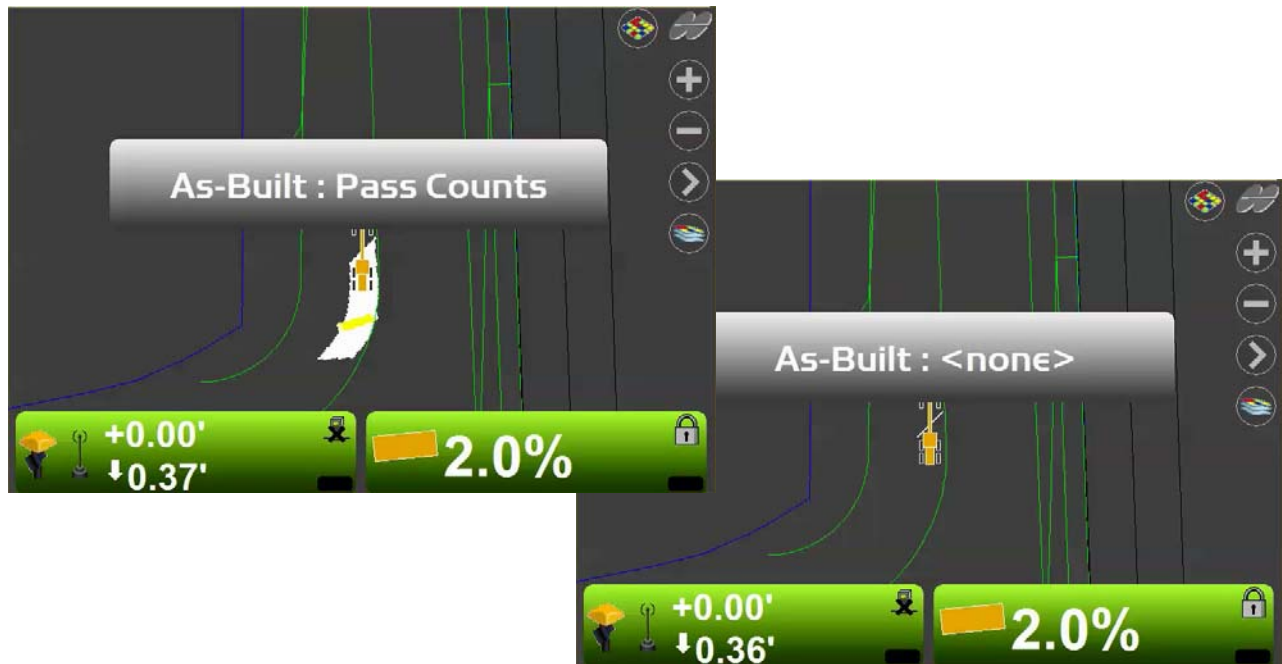

Figure 112: As-built Shortcut Button – Pass Counts/None
2. Tap the As-built shortcut button again. The As-built changes to **Pass Counts** (Figure 112).
3. Tap the As-built shortcut button again to disengage the As-built (Figure 112).